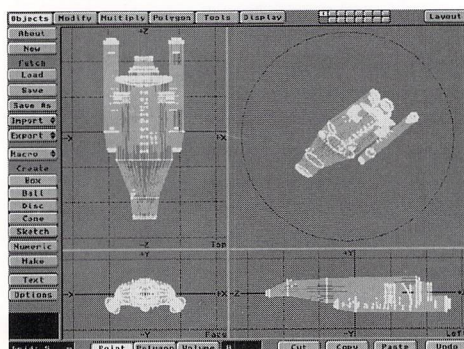

Figure 5: The spaceship object loaded into Modeler
- Begin by loading up your favorite spaceship object into Modeler. If you're like me and you built your craft with several different movable parts, you'll need to load the objects into Layout, use Save Transformed and load all the transformed objects into one layer so they are all in their relative positions (Figure 5). Remember, however, to reset your position, rotation and scale for your main parent object first, to ensure that your shadow edges can be easily matched up later.